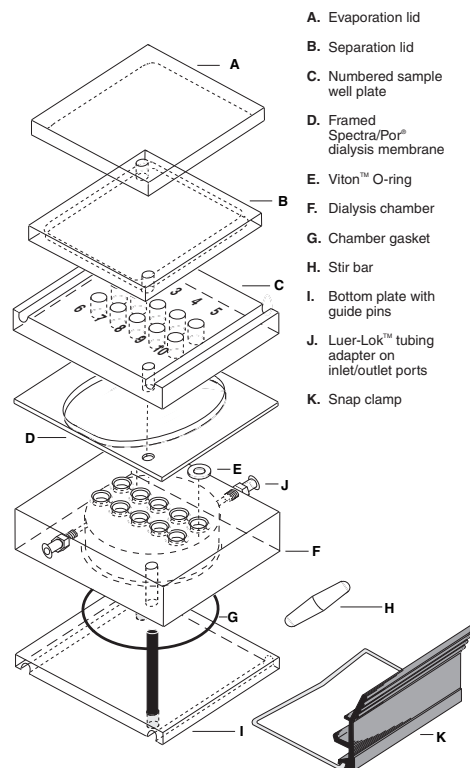

Figure 3 - Typical Thumb-screw MicroDialyzer
3. Remove the sample well plate (item B in Figure 3). Position a membrane gasket over the alignment pins so that the holes in the gasket line up with holes in the dialysis chamber plate.